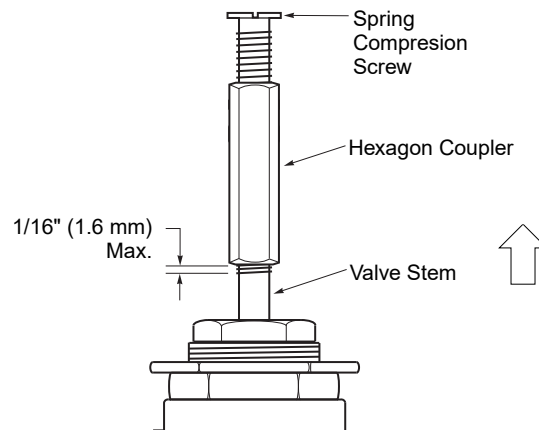

Figure-1 Installation of Hexagon Coupler and Spring Compression Screw onto Valve Stem.
1. Thread the hexagon coupler onto the valve stem all the way to the bottom of the stem thread until it is finger-tight (Figure-1).